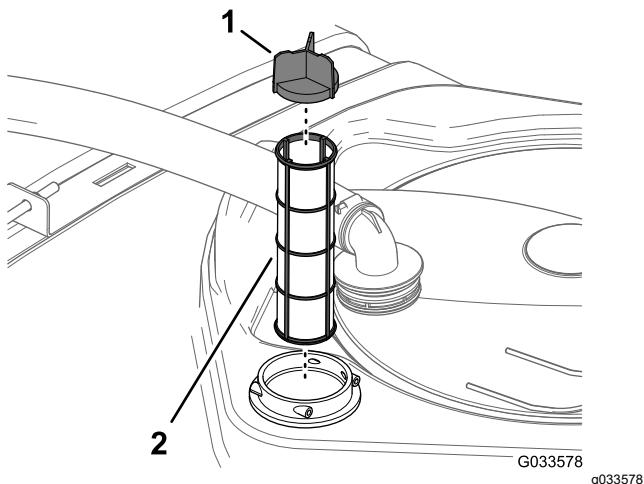

Figure 28
- Pull the suction strainer out of the filter housing in the tank (Figure 28).